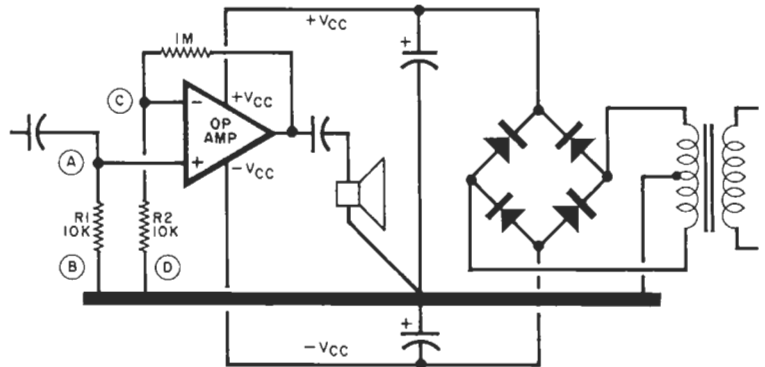

Fig. 2. An op-amp audio circuit using a bipolar power supply to isolate audio grounds from supply lines.
**Bipolar Power Supplies.** A typical operational-amplifier audio circuit using a bipolar power supply is shown in Fig. 2. In this circuit, the  $-V_{cc}$  (negative) dc line doesn't share the same line as the speaker return. This points up one of the great advantages of the bipolar power supply—isolation of the load from the power supply lines.